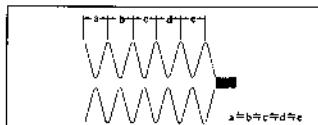

Fig. 43
### 5-5. CUE AND REV WAVEFORM CHECK (Fig. 43)
- 1) Play back the alignment tape for tracking adjustment and set the REV mode. Confirm that waveform peaks maintain a constant pitch of 5 seconds or more (Fig. 43). In case pitch is not constant, perform section 5-2, Tracking Fine Adjustment and section 5-4, No.7 Guide Adjustment.
- 2) Set the CUE mode. Confirm that waveform peaks still maintain a constant pitch of 5 seconds or more (Fig. 43). Otherwise, perform section 5-2 Tracking Fine Adjustment.